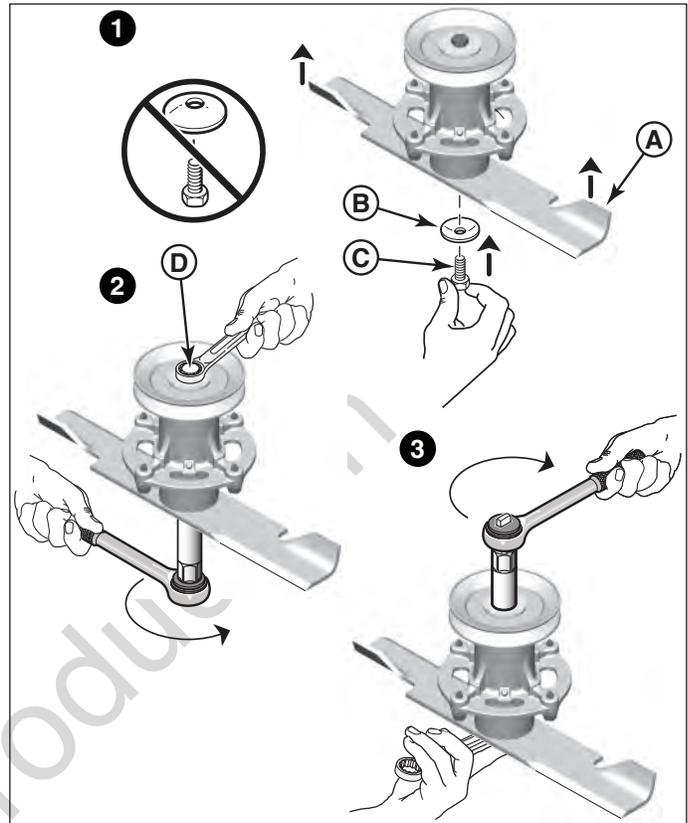
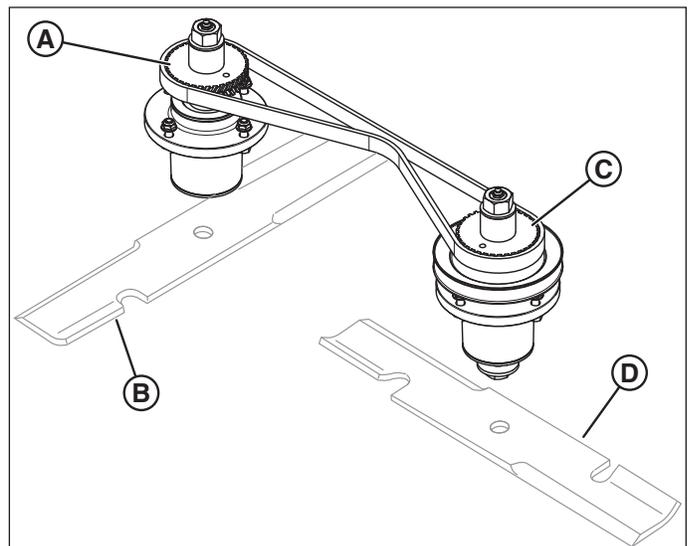

Figure 4. Installing the Mower Blades
Figure 6. Blade Alignment
2. Install each blade with the airlifts (A, Figure 4) pointing up towards the mower deck as shown.
4. Install the concave side of the washer (B, Figure 4) towards the blade.
5. Install the blade mounting bolt (C) hand tight to hold the washer and blade onto the shaft (make sure the blade is fully seated onto the shaft and installed on alignment pins).
6. Check that the blades are installed so that the left blade (D, Figure 6) that is installed to the trim side spindle (C) is aligned perpendicular to the right blade (B) that is installed to the discharge side spindle (A).
7. Tighten the blade mounting bolt (C, Figure 4) to 50 - 60 ft. lbs. (68 - 81 Nm) or torque while holding onto the appropriate pulley bolt (D) with a wrench.
8. Tighten the pulley bolt (D) to 50 - 60 ft. lbs. (68 - 81 Nm) or torque while holding onto the appropriate blade mounting bolt (C) with a wrench.